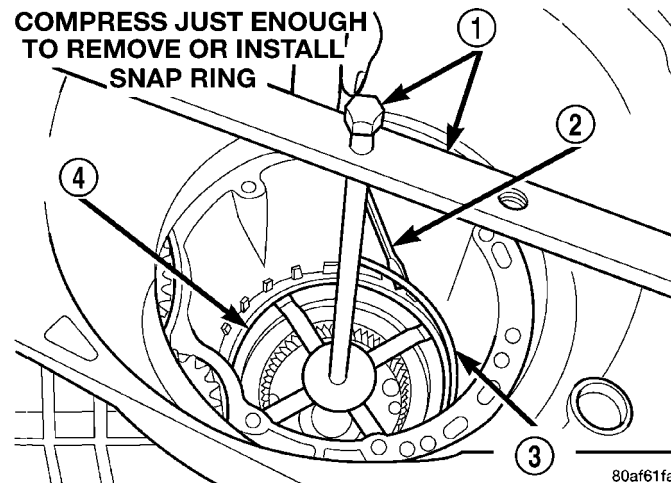

Fig. 133 Install 2/4 Clutch Retainer Snap Ring
(46) Using tool 5058, compress 2/4 clutch return spring just enough to install snap ring (Fig. 133).